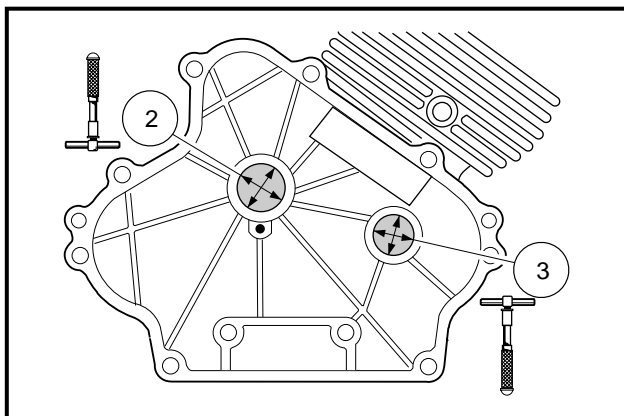
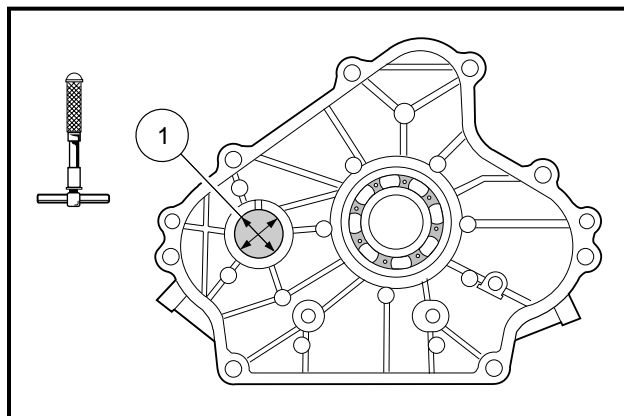

Figure 13-92 Inspect Bearing Surfaces in Crankcase
Figure 13-93 Inspect Camshaft Surface in Crankcase Cover
1. Inspect the camshaft surfaces, one in the crankcase (3) (**Figure 13-92, Page 13-41**) (and the other in the crankcase cover (1) (**Figure 13-93, Page 13-41**)). Using an inside micrometer or telescoping gauge, measure the inside diameter of each bearing surface. If the inside diameter is greater than 0.9080 inch (23.063 mm), replace the crankcase and/or the crankcase cover.
2. Inspect the crankshaft bearing surface (2) in the crankcase. Using an inside micrometer or telescoping gauge, measure the inside diameter of the bearing surface. If the inside diameter is greater than 1.1841 inches (30.075 mm), replace the crankcase (**Figure 13-92, Page 13-41**).